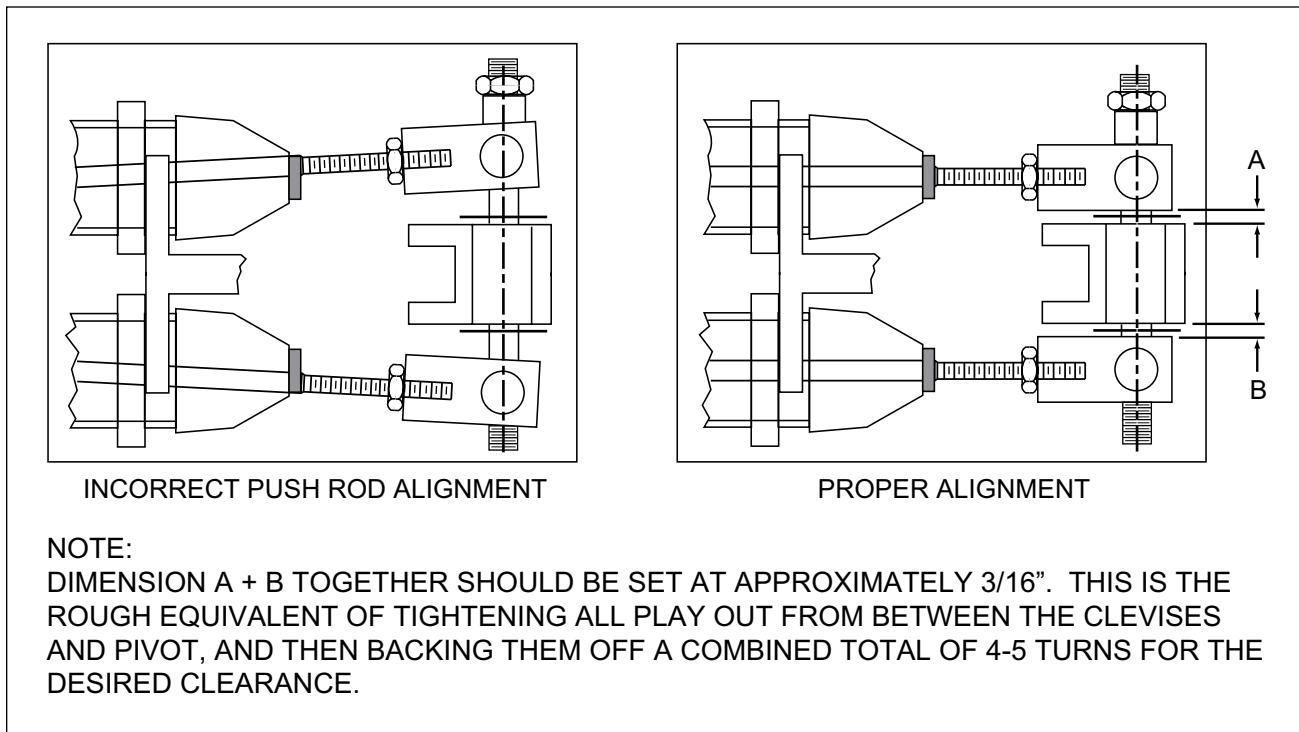

Figure 2. Push Rod Alignment
- Prior to installing the mount in the race car, or attaching the master cylinders, adjust the clevis to pivot side clearance as shown in Figure 2. The combined total clearance of A + B should be approximately 3/16". This is the equivalent of tightening the clevises to remove all play, and then backing them off 4-5 turns. This adjustment is necessary to allow free movement of the balance bar through full pedal travel with the master cylinder pushrods in a parallel position to each other.